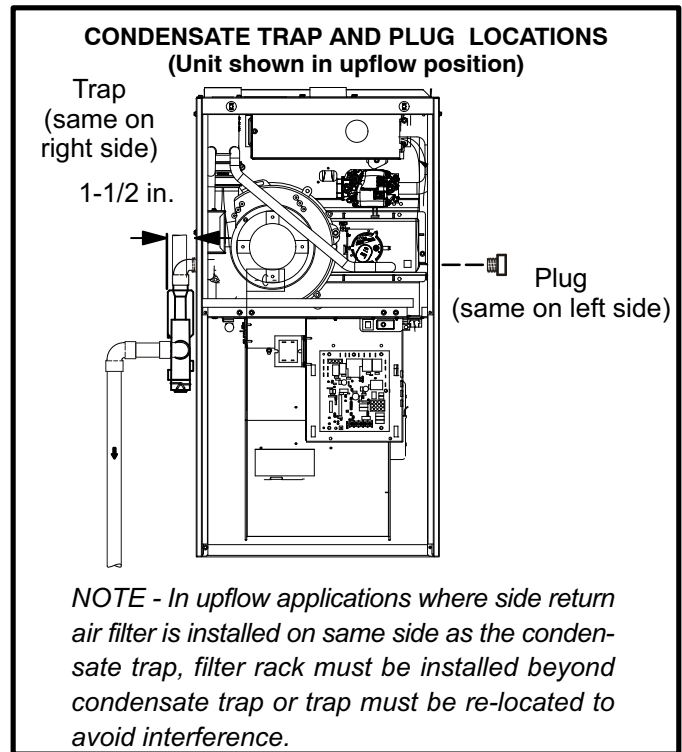
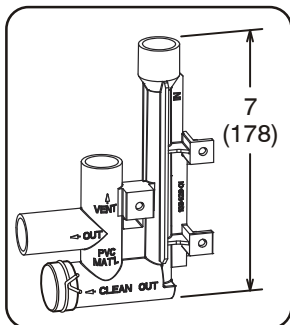

FIGURE 41
FIGURE 49
This unit is designed for either right- or left-side exit of condensate piping in upflow applications. In horizontal applications, the condensate trap must extend below the unit. An 8" service clearance is required for the condensate trap. Refer to figures 41 and 43 for condensate trap locations. Figure 49 shows trap assembly using 1/2" PVC or 3/4" PVC.
- 2 - Use a large flat head screw driver or a 1/2" drive socket extension and remove plug (figure 41) from the cold end header box at the appropriate location on the side of the unit. Install provided 3/4 NPT street elbow fitting into cold end header box. Use Teflon tape or appropriate pipe dope.
- 3 - Install the cap over the clean out opening at the base of the trap. Secure with clamp. See figure 49.
- 4 - Install drain trap using appropriate PVC fittings, glue all joints. Glue the provided drain trap as shown in figure 49. Route the condensate line to an open drain. Condensate line must maintain a 1/4" downward slope from the furnace to the drain.